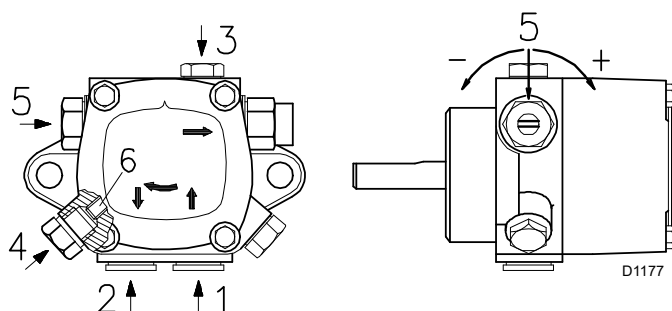

Fig. 26
Key (Fig. 26)
- In order for self-priming to take place the screw 3) (Fig. 26) of the pump (Fig. 26) must be loosened in order to bleed off the air contained in the suction line.
- The pump can be considered primed when the light oil starts coming out of the screw 3)(Fig. 26). Stop the burner: set switch 1)(Fig. 27) to "OFF" and tighten the screw 3)(Fig. 26).